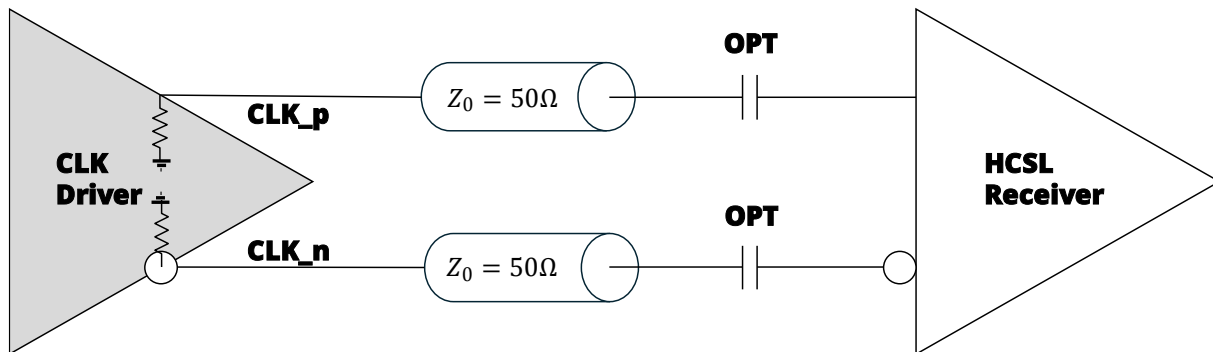

Figure 13. HCSL (Integrated Termination)
- Updated Figure 13: Output Driver (HCSL); removed AC coupling